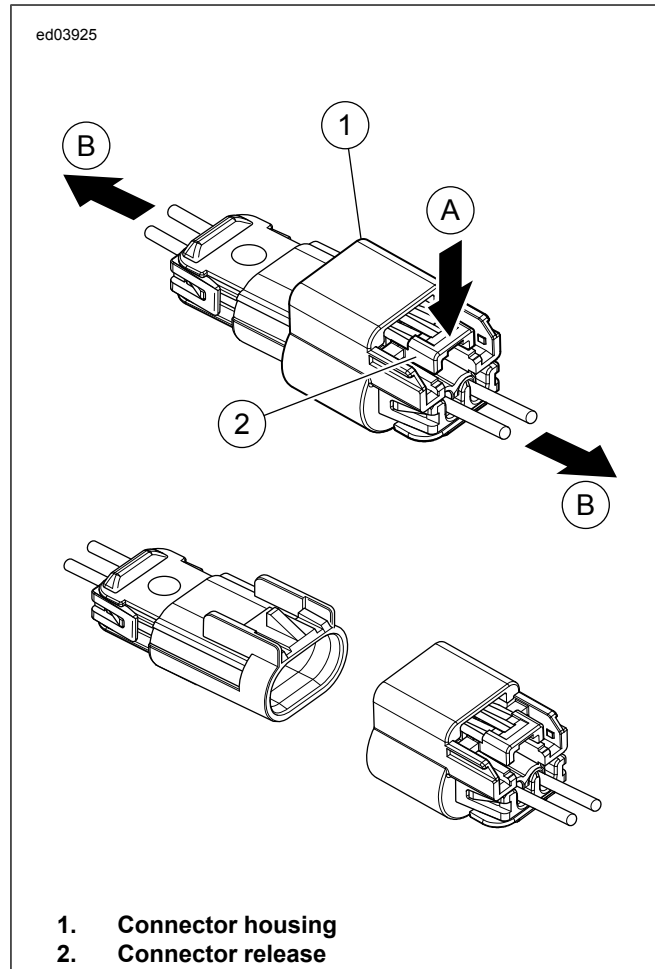

Figure B-8. Disconnect
See Figure B-8. Press connector release (A), separate the two halves (B).